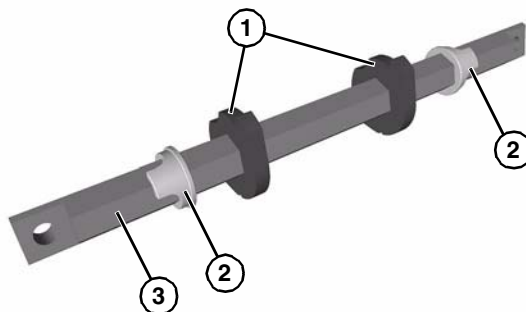

Figure 14
1. Slide stop keys (Figure 14, item 1) and tip up sleeves (Figure 14, item 2) onto hex shaft (Figure 14, item 3). The tabs on the tip up sleeves face outward and align with the slotted ends of the hex shaft as shown.